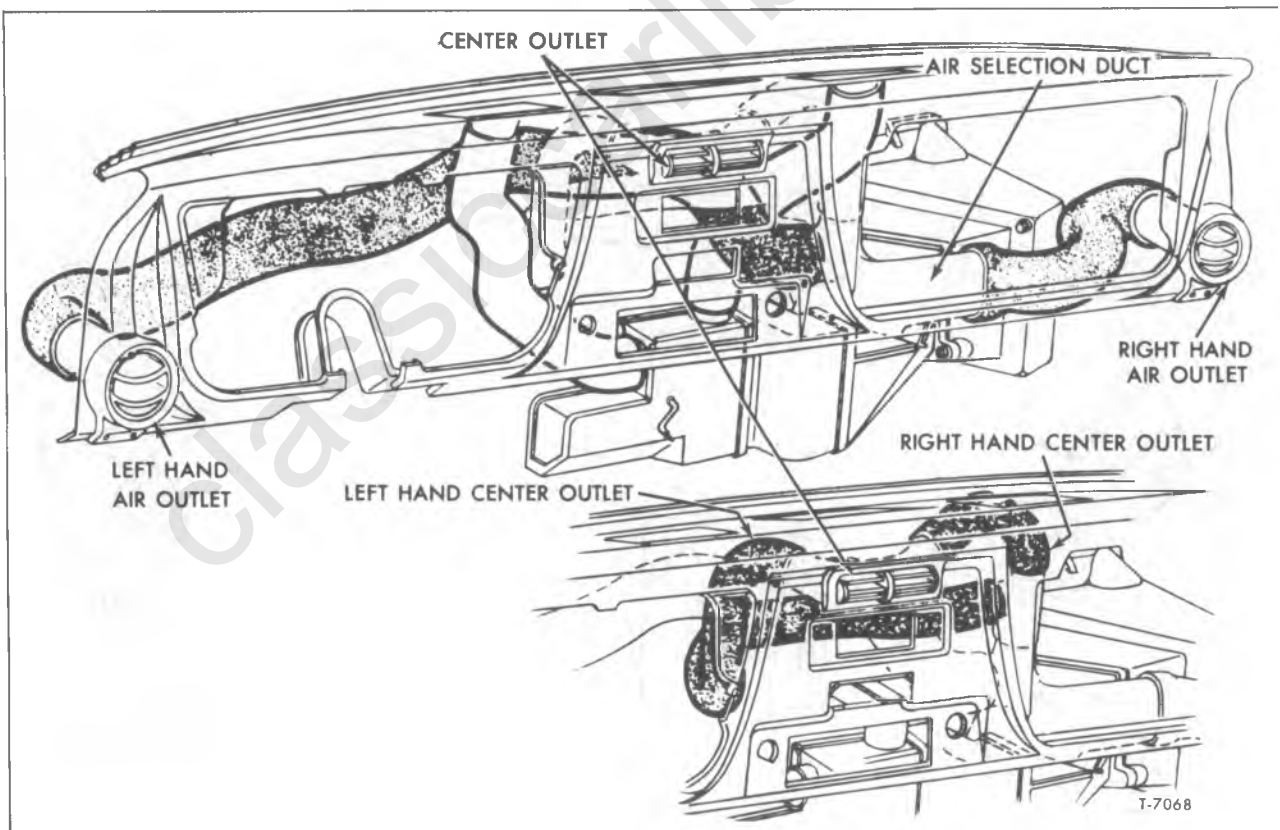

Figure 23—Air Outlets and Hoses
2. Disconnect the dash outlet air hoses from the distributor (fig. 23).